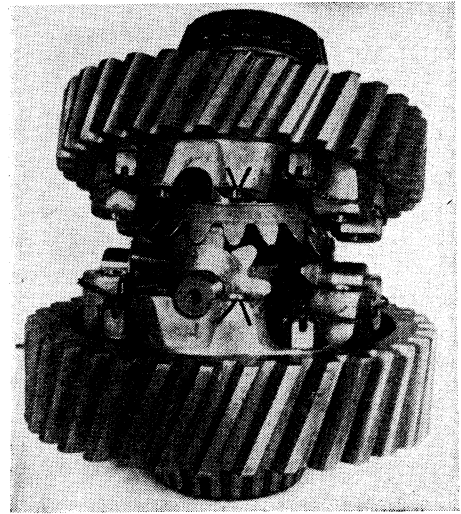

Fig. 48 Install differential and spur gears according to identification marks
- Align mating marks, Fig. 48, position component case half and draw assembly together with four long bolts or cap screws equally spaced.